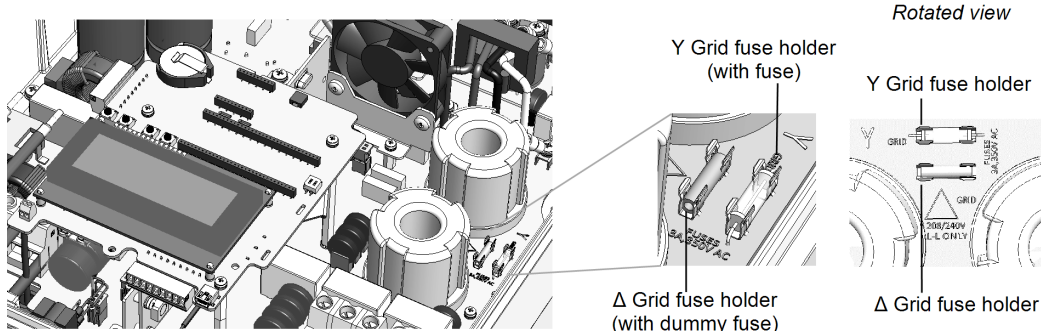

Figure 2: Fuse locations and markings
To set the inverter for delta grid connection, you must move the fuse from the WYE fuse holder, marked as Y GRID, to the Delta fuse holder, marked as Δ GRID (see Figure 2).
2. Identify the fuse locations and the markings as described in Figure 2.